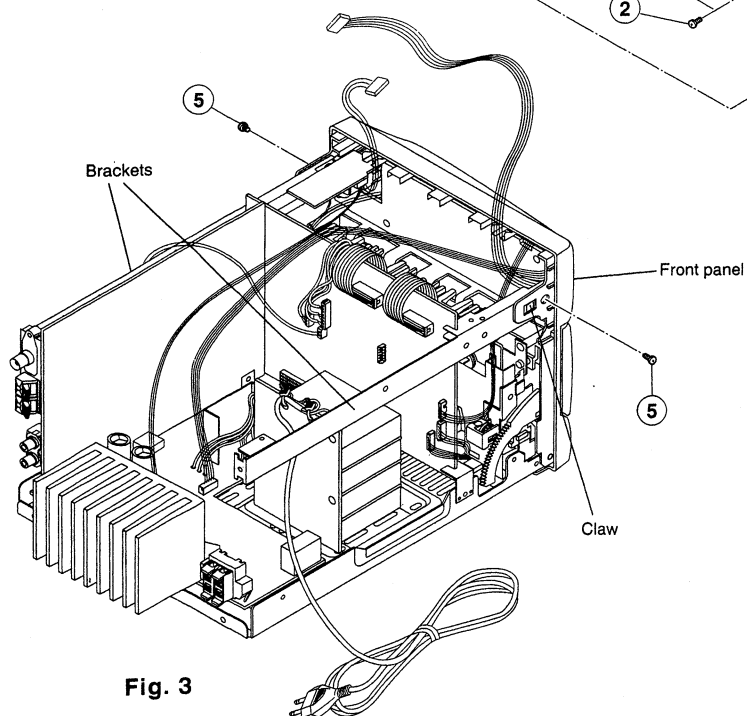

Fig. 3
3. **Removal of Left and Right Brackets (Fig. 3)**